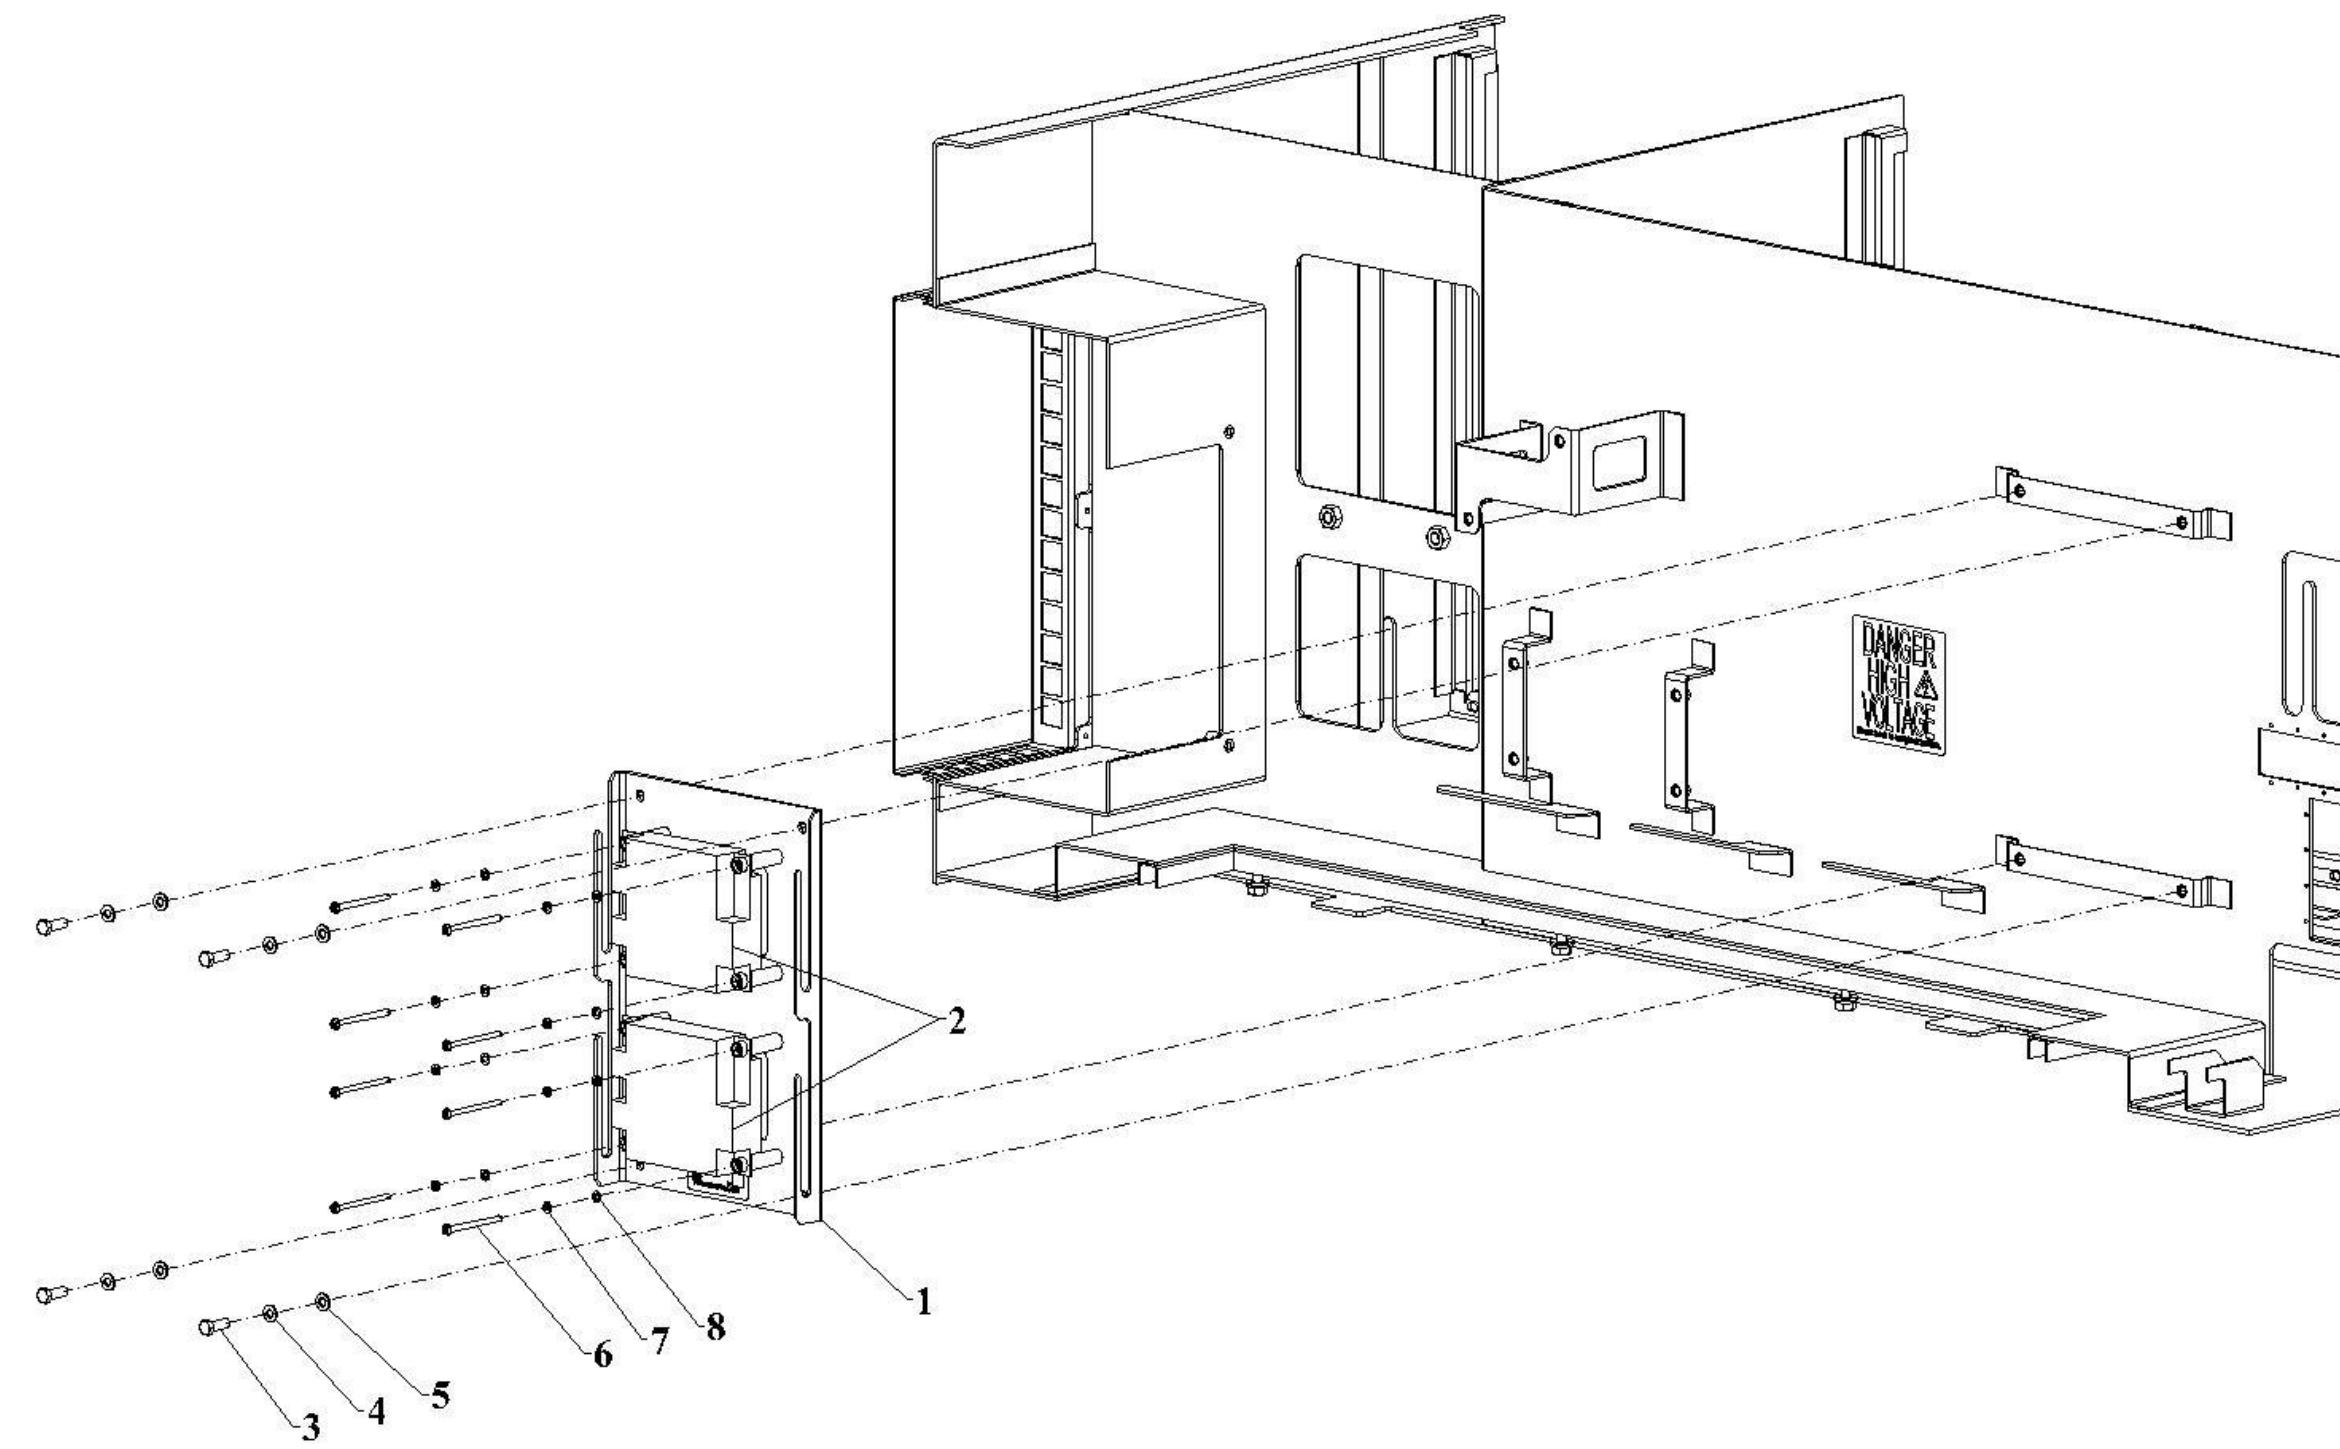

Figure 5-28: DC Voltage Detector Installation
4. The DC Voltage Detection Unit is shown in Figure 5-28. Disconnect the two low voltage electrical connectors (not shown) at the voltage detector unit and remove the four high voltage cables (not shown).
5. Loosen the four mounting M6 bolts (3) that hold the DCVD (1) unit to the equipment case frame. Use a 10 mm socket.
6. To remove only one voltage detector circuit board (2), loosen four mounting bolts (6).
1. Attach the new unit with four M6 mounting bolts (3), lock washers (4), and flat washers (5) as shown in Figure 5-28. Torque to 5.8 Nm (51 in-lbs.). Use a 10 mm socket.
2. To install only one circuit board, use four sets of mounting bolts (6), lock washer (7) and flat washer (8). Torque to 5.8 Nm (51 in-lbs).